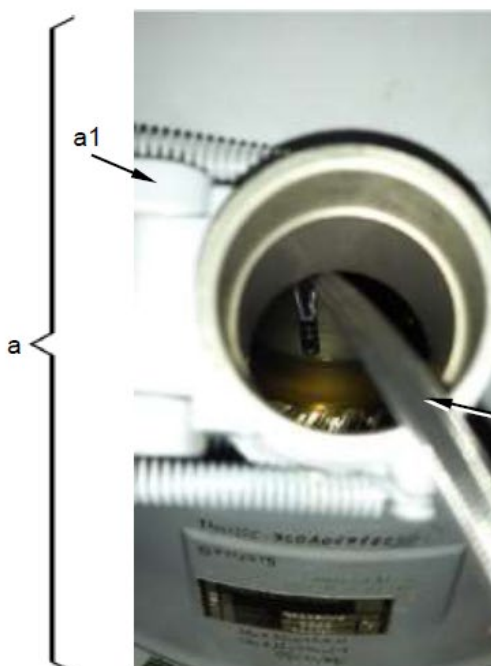
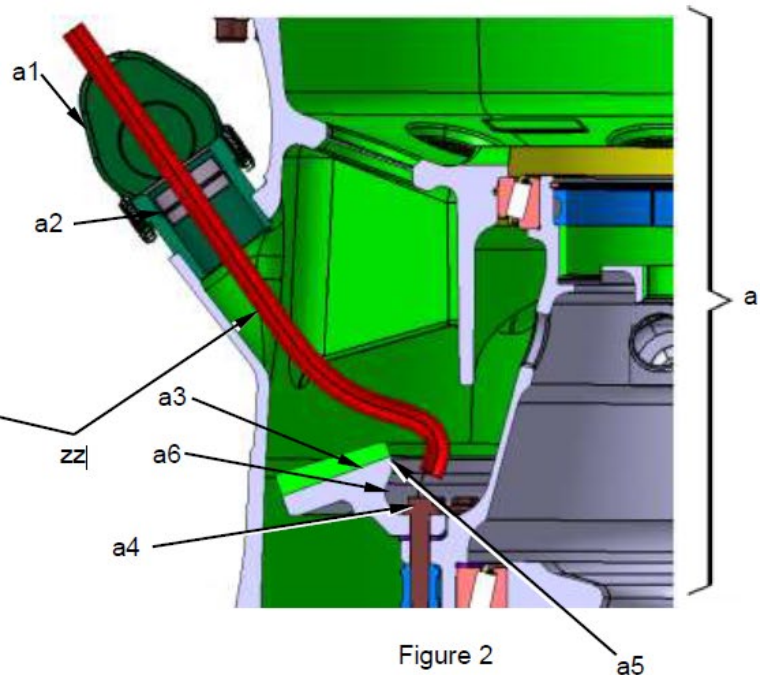

Figure 1
Figure 2
3.B.2. Visual inspection of the bevel wheel (Figure 1 and Figure 2)
If the bottom of the radius (a6) of the bevel wheel (a3) and/or head screws (a4) (see Figure 2) are not clearly visible, contact Airbus Helicopters for further instructions to the address that follow:
Examine precisely the specific area of the radius (a6) under the teeth (a5) of the bevel wheel (a3) (Figure 2).
Refer to Figures 2 and 13: